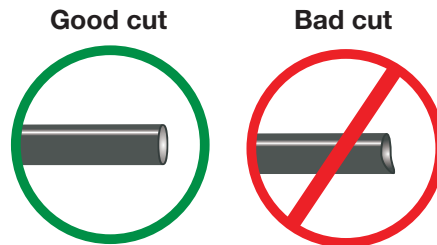

fig. 23
1. Cut the air line in half. Make clean, square cuts with a razor blade or hose cutter (Fig. 23). Do not use scissors or wire cutters.
- a. Check the air line connection by deflating the spring and removing the line by pulling the collar against the fitting and pulling firmly on the air line. Trim 1" off the end of the air line. Be sure the cut is clean and square (see Fig. 23). Reinsert the air line into the push-to-connect fitting.